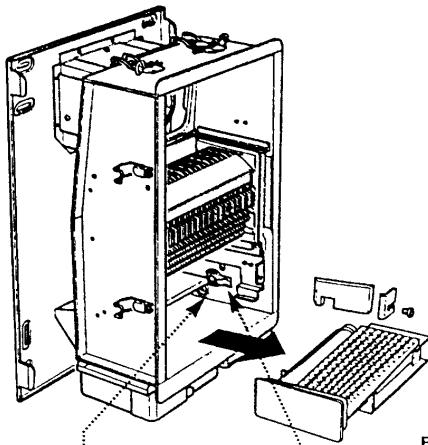

Fig. 113
**10.10 Burner (Fig. 113)**
1. Remove the right hand side insulation carrier bracket by releasing the screw. Remove the side insulation panel (Fig. 113).